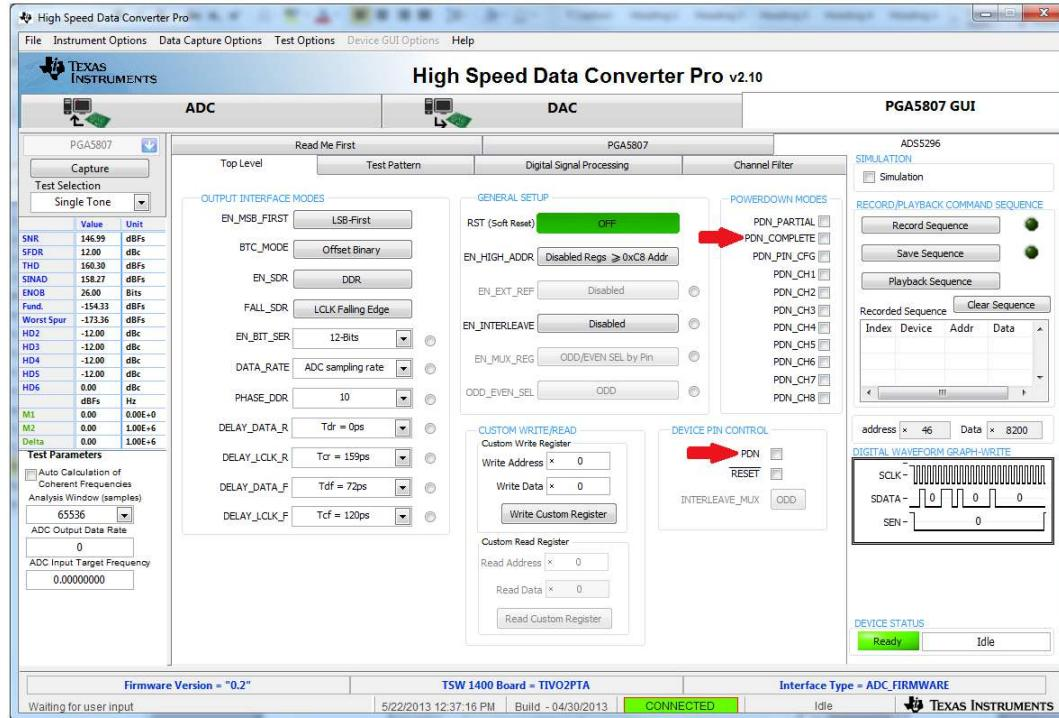

Figure 31. ADS5296 Tab of the PGA5807 GUI
As shown in Figure 31, the **ADS5296A** tab contains all controls pertaining to the ADS5296A device installed on the EVM.
4. Verify that communication between the PGA5807A EVM and the PGA5807 GUI is established by toggling either the **PDN_COMPLETE** checkbox or the **PDN** checkbox, as indicated on Figure 31. Checking either box should make +5-V power supply current drop from ~650 mA – 750 mA to ~350 mA – 450 mA. If the DC current is approximately 480 mA, with both power down boxes unchecked, it indicates that the ADS5296A is not receiving the sampling clock. Please ensure that the 3-pin headers are configured as described in Section 3.2. Before continuing, ensure that both power down boxes are left unchecked. At this point, the GUI is confirmed to be communicating correctly with the EVM and testing can begin.